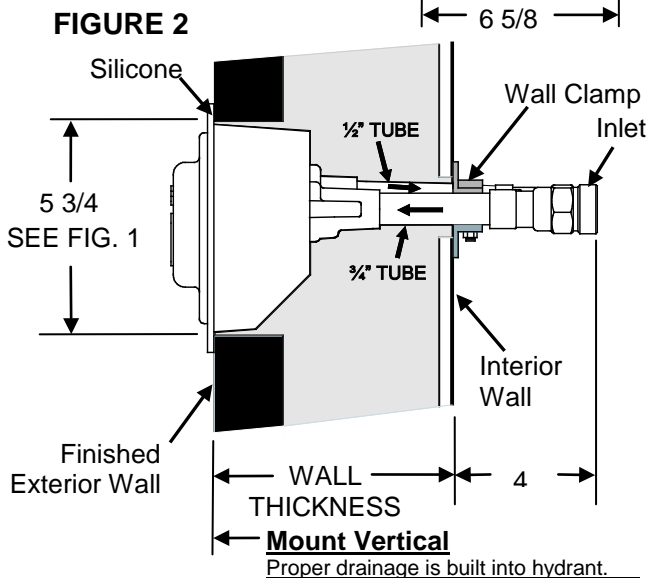

FIGURE 2
3. Apply silicone or equivalent behind the box flange to seal and help support hydrant. FIGURE 2
4. Insert the box and faucet assembly from the outside. FIGURE 2
5. The top box flange must be installed in the horizontal position and level. Do not install in vertical position. FIGURE 2
6. The hydrant Inlet must be located in a warm area of the building interior. FIGURE 2